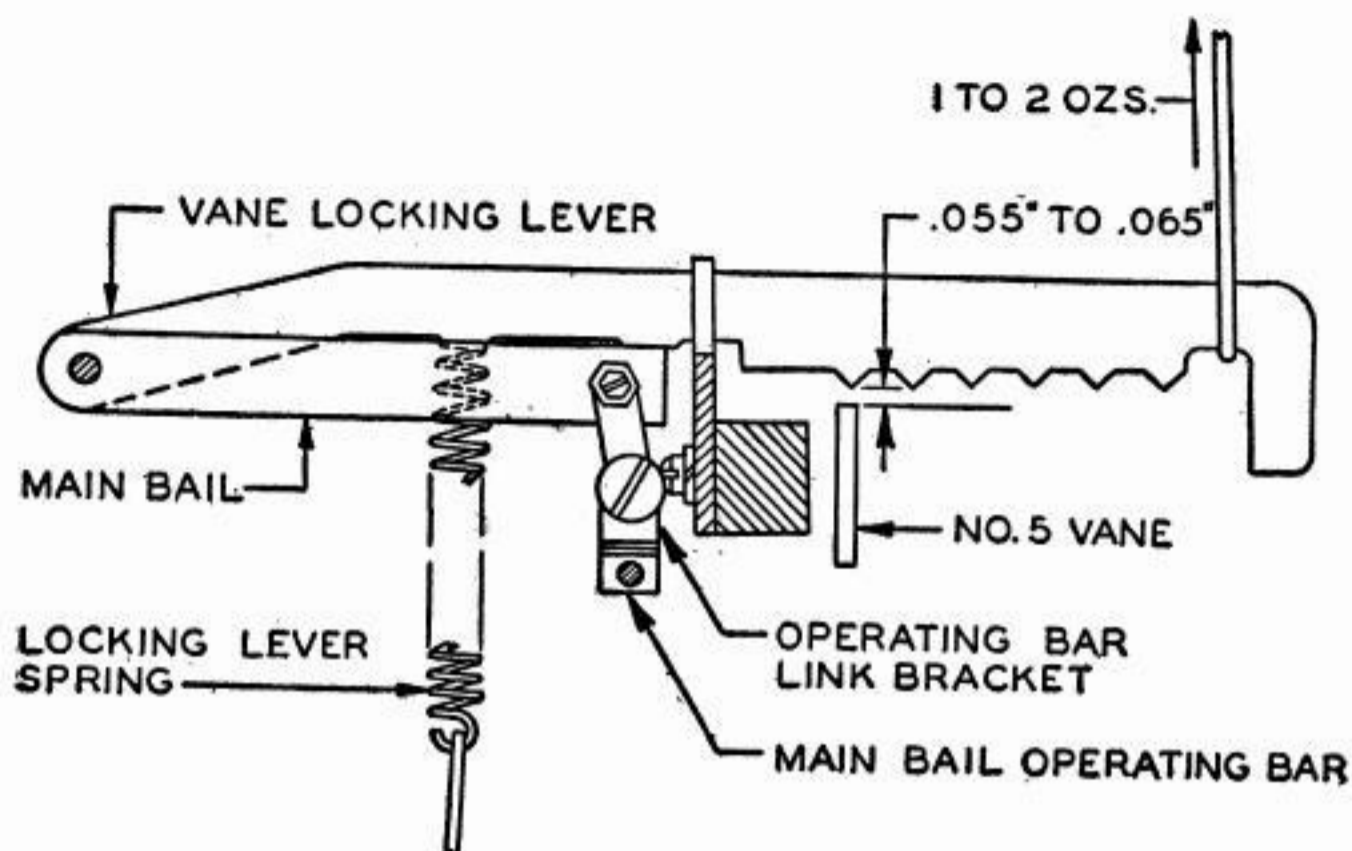

Fig 3
3.03 **Mainbail Height:** There should be a clearance of Min .055", Max .065", between the No. 5 vane and the associated projection of the right- and left-vane locklevers at their closest point. **Fig 3**